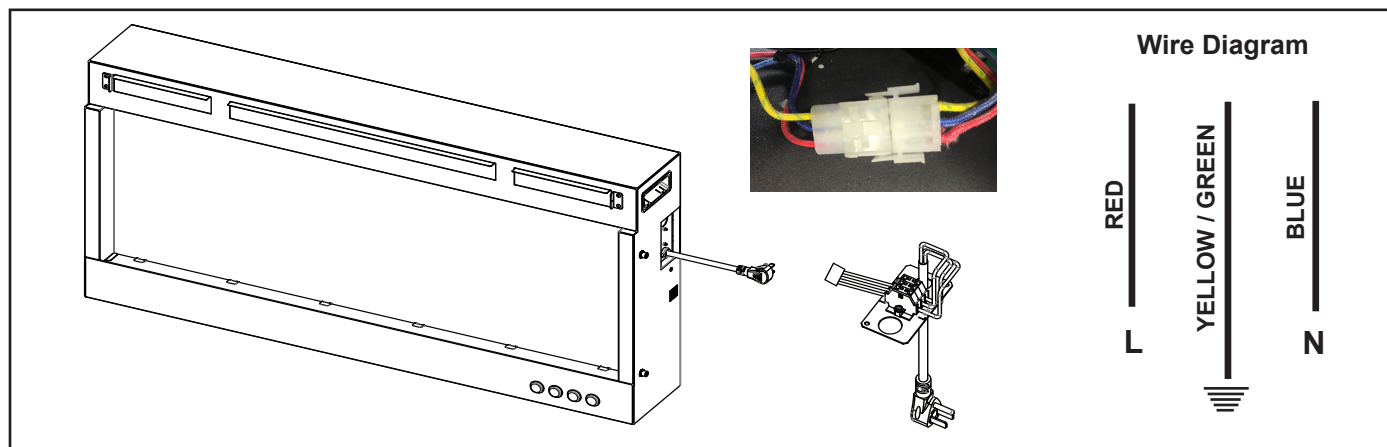

Figure 32. Optional Power Cord Assembly Installation
3. Connect the three conductor wire connector to the connector on the block supplied with the power cord kit. See Figure 32.